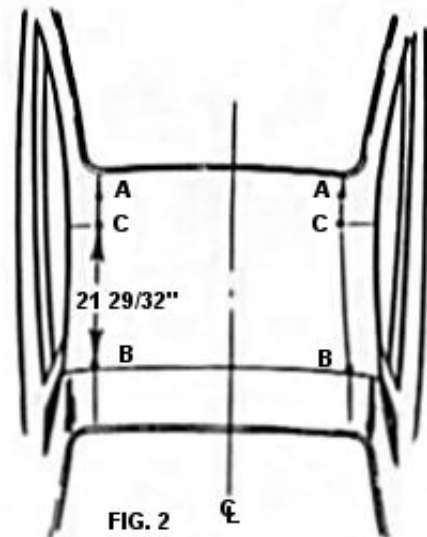

FIG. 2
4. FROM FRONT EDGE OF REAR ROOF PANEL, MEASURE ALONG LINE A-B & SCRIBE POINT C, $21 \frac{29}{32}$ " FORWARD OF REAR ROOF PANEL EDGE AS SHOWN IN FIGURE 2.